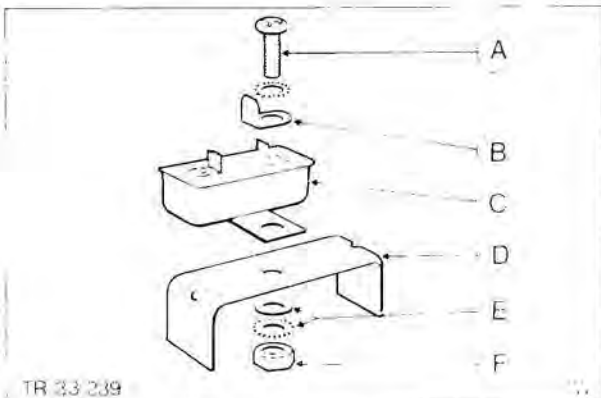

Fig. 21. Assembling regulator
8. Secure regulator to fuel gauge bracket using screw, shakeproof washer, flat washer and nut, Fig. 21.